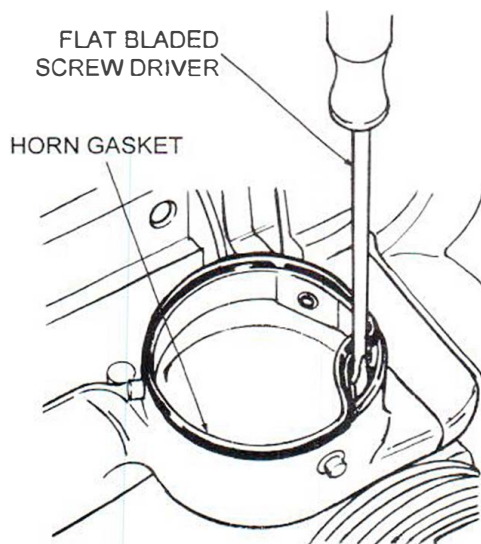

Figure 12. Exhaust Horn Gasket Removal
- A. See Figure 12. Remove the damaged exhaust horn gasket. Using a flat bladed screwdriver, pry the gasket ring toward the center of the exhaust horn. Remove bent ring by pulling up with pliers.